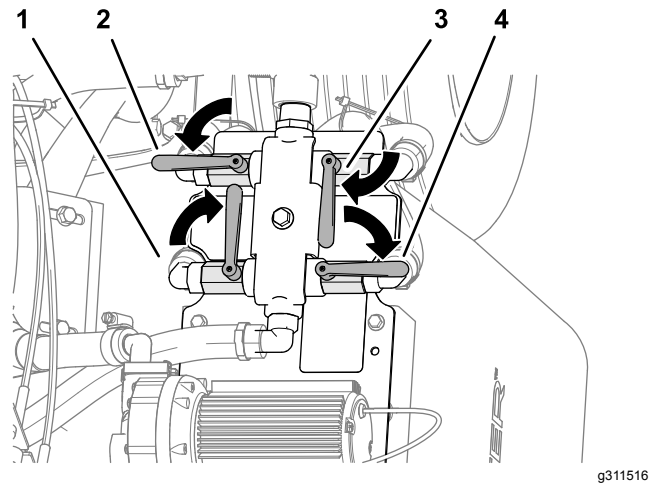

Figure 38
4. Rotate the valve handles as shown in Figure 38.